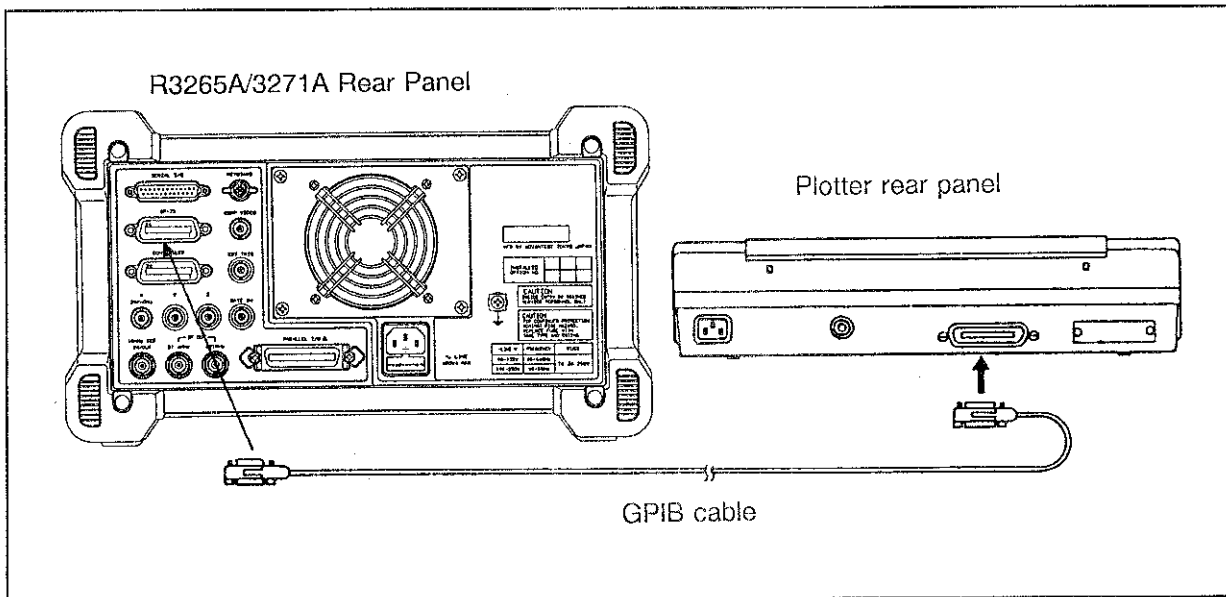

Figure 5.9-1 Plotter Connection
Connect the plotter to the analyzer with a GPIB cable as shown in Figure 5.9-1. Table 5.9-1 lists plotters that are compatible with the analyzer.
2. In case the **CONNECTED HOST** mode is selected, connect the GPIB cable to GPIB port of the CONTROLLER side on the rear panel. In the other case, connect to GPIB cable to the upper GPIB port as shown in Figure 5.9-1.